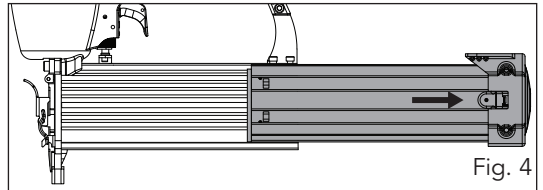

Fig. 4
2. Slide the magazine cover all the way to the rear of the magazine (fig. 4).